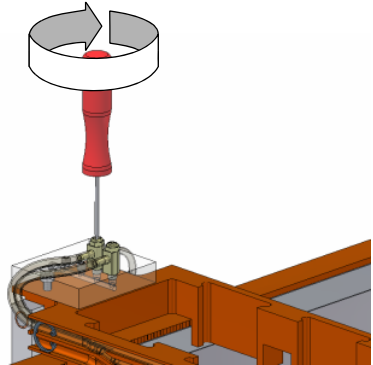

Figure 7. Adjusting a flow control valve
- Close all flow control valves (Figure 7) using the screwdriver supplied with your tester (see “Access panel” on page 5).